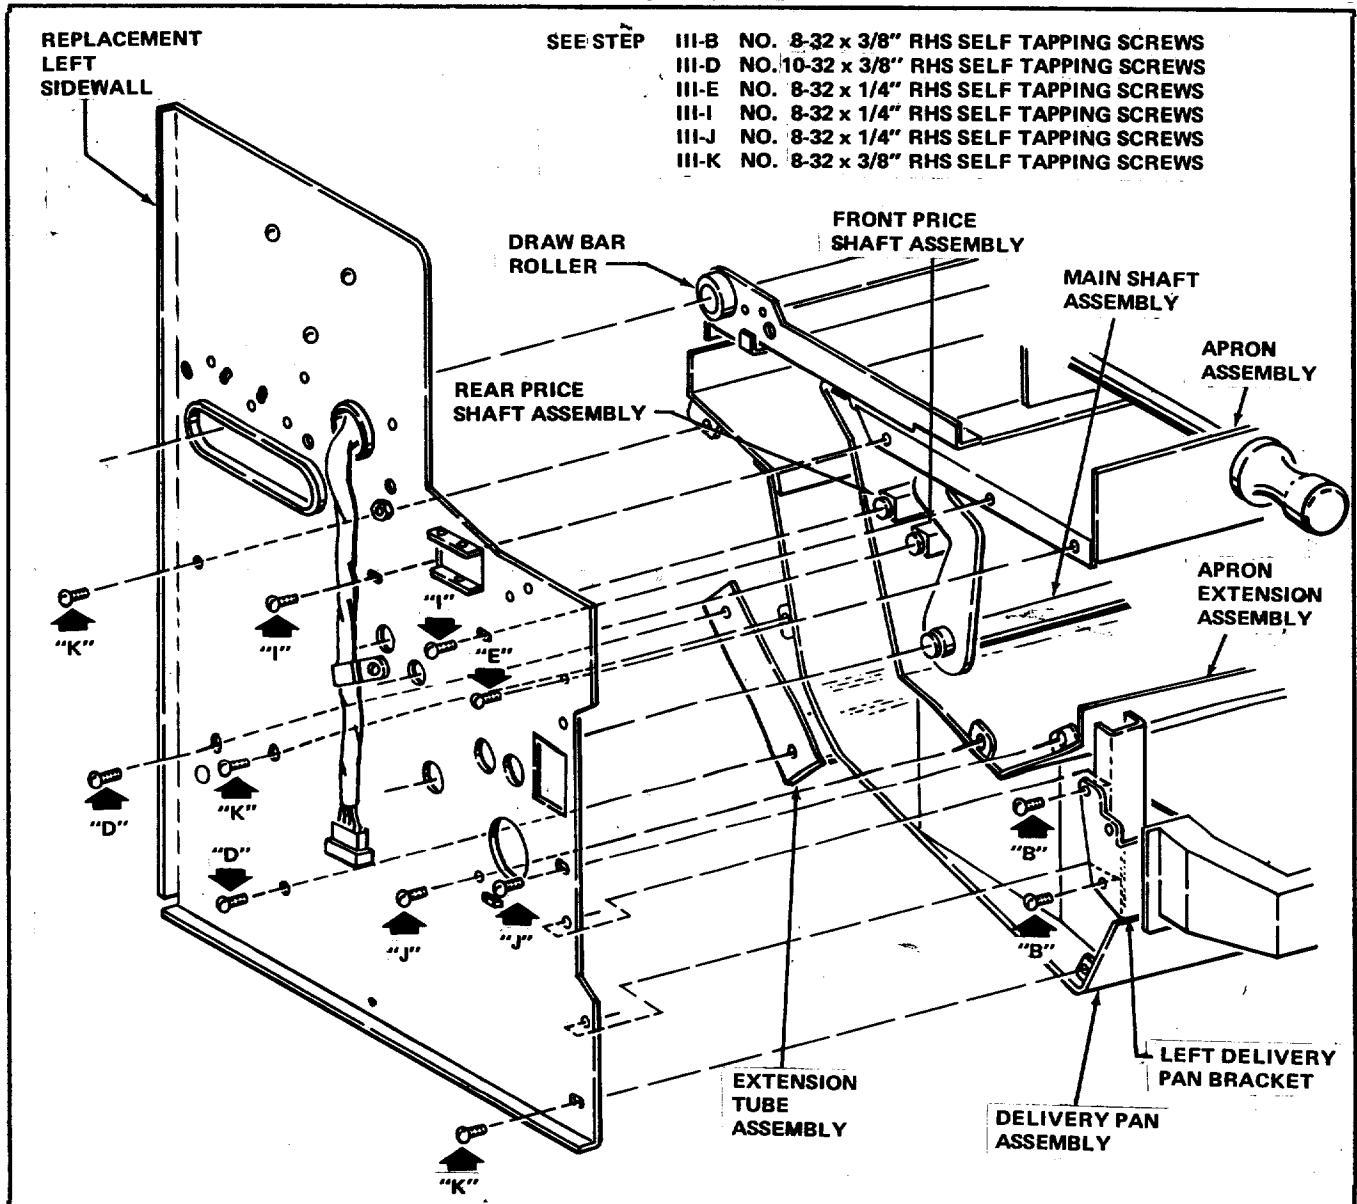

FIGURE III-1
- A. Place the replacement Left Sidewall Assembly, part number 407-8007, on the Delivery Mechanism. See Figure III-1.
- D. Loosely attach the Left Sidewall Assembly to the Extension Tube Assembly with two No.10-32 x 3/8 RHS Self-tapping Screws. See Figure III-1.